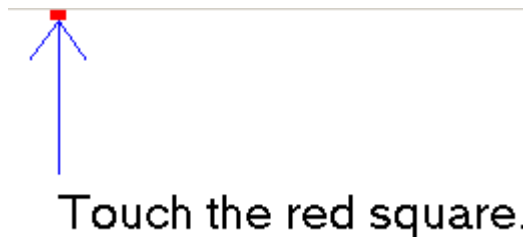

Figure 5-11: Calibration Screen
**Step 10:** The calibration screen in is shown. See **Figure 5-11**.